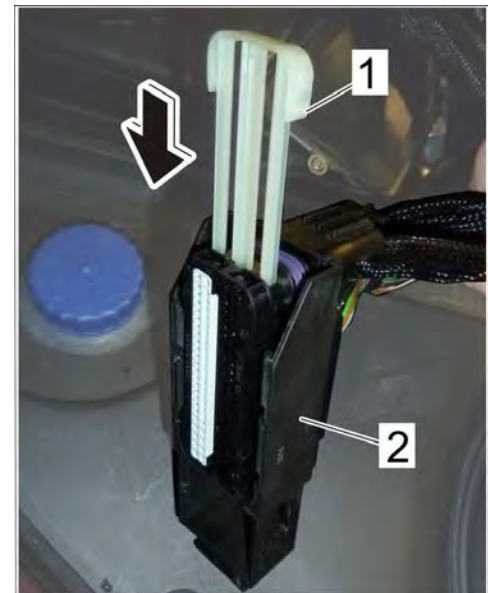

Figure 13
- 12 Slide the locking mechanism for the plug-in contacts ⇒ *Figure 13 -1-* completely into the connector housing ⇒ *Figure 13 -2-* (⇒ *Figure 13 -arrow-*).